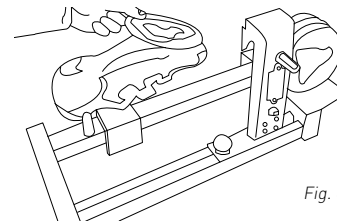

Fig. 6
4. Place the protractor disc on the cleat (Fig. 6)